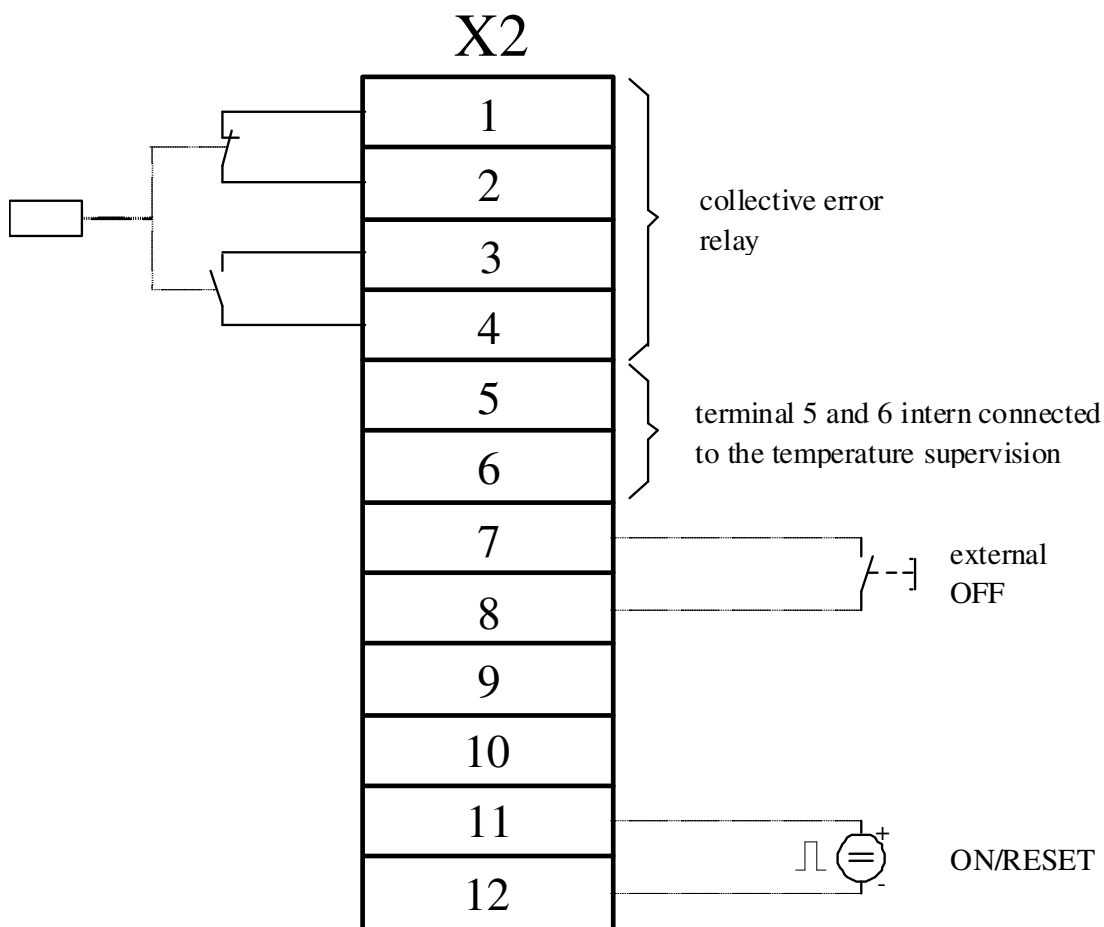

Figure 4.4.4.2
**Terminals 1-4 (refer to figure 4.4.4.2)**